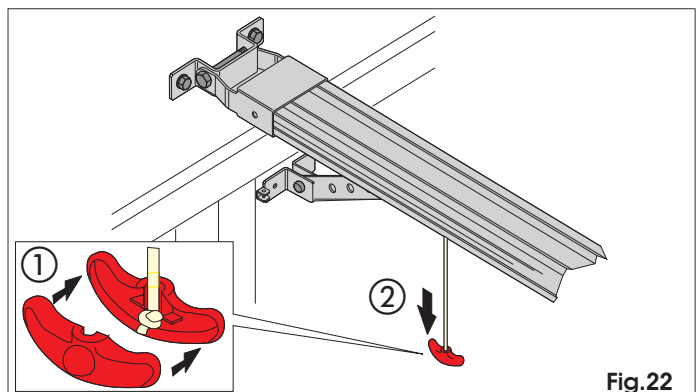

Fig.22
- 2) Make a knot at the end of the rope and assemble the release handle (Fig. 22).
- 3) Pull the release handle down and check if the door can be moved manually (Fig. 22).